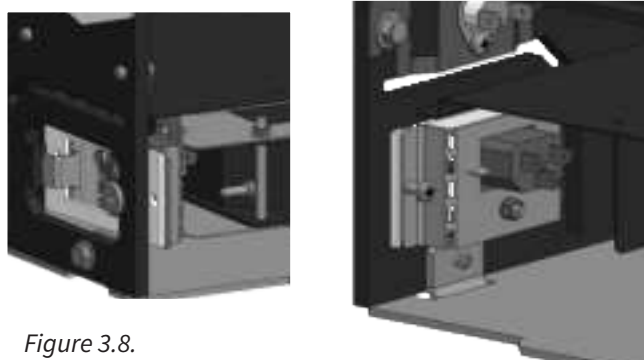

Figure 3.8.
2. Insert the AC power receptacle lead through the appropriate inlet in the side of the firebox. See fig. 3.8. Remove the #8 x 5/8" phillips screw already in place and engage the receptacle bracket with the tab in the inlet opening. Reinstall the screw from the inside.